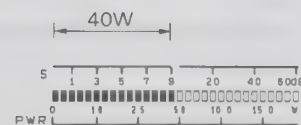

Fig. 1
- 8 Adjust the CAR control so that the meter indicates as shown Fig.1.